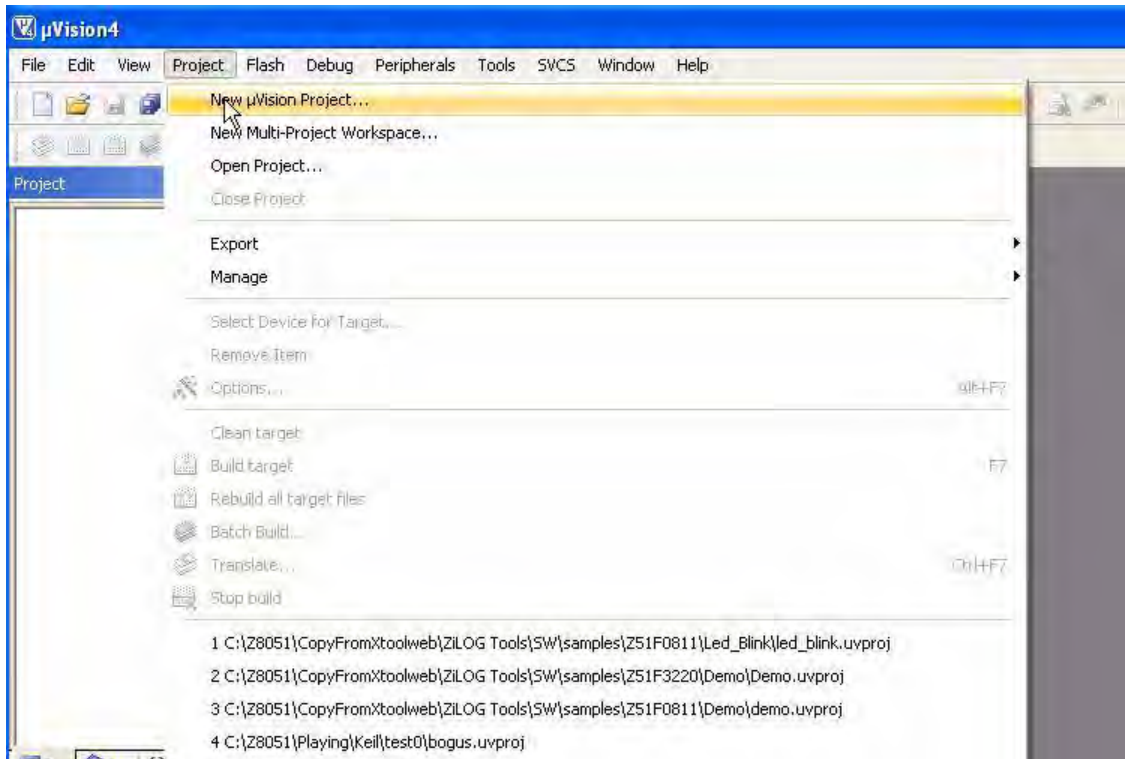

Figure 13. Creating A New Project
1. Begin by selecting **Project** → **New uVision Project**, as indicated in Figure 13. The **Create New Project** dialog box will appear.